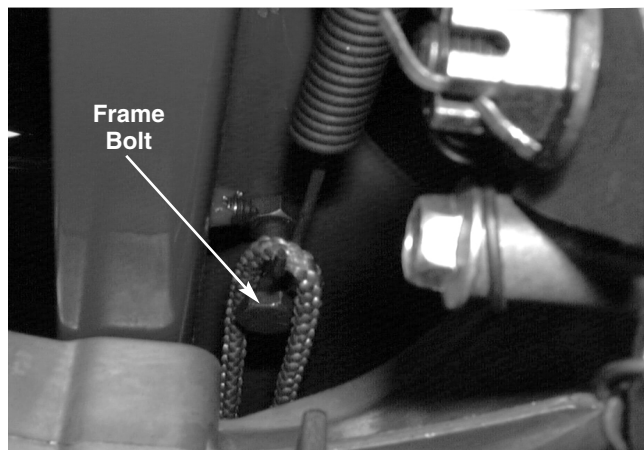

FIGURE 10.
17. Remove the neutral return spring from the frame bolt using a piece of recoil rope. See figure 10.